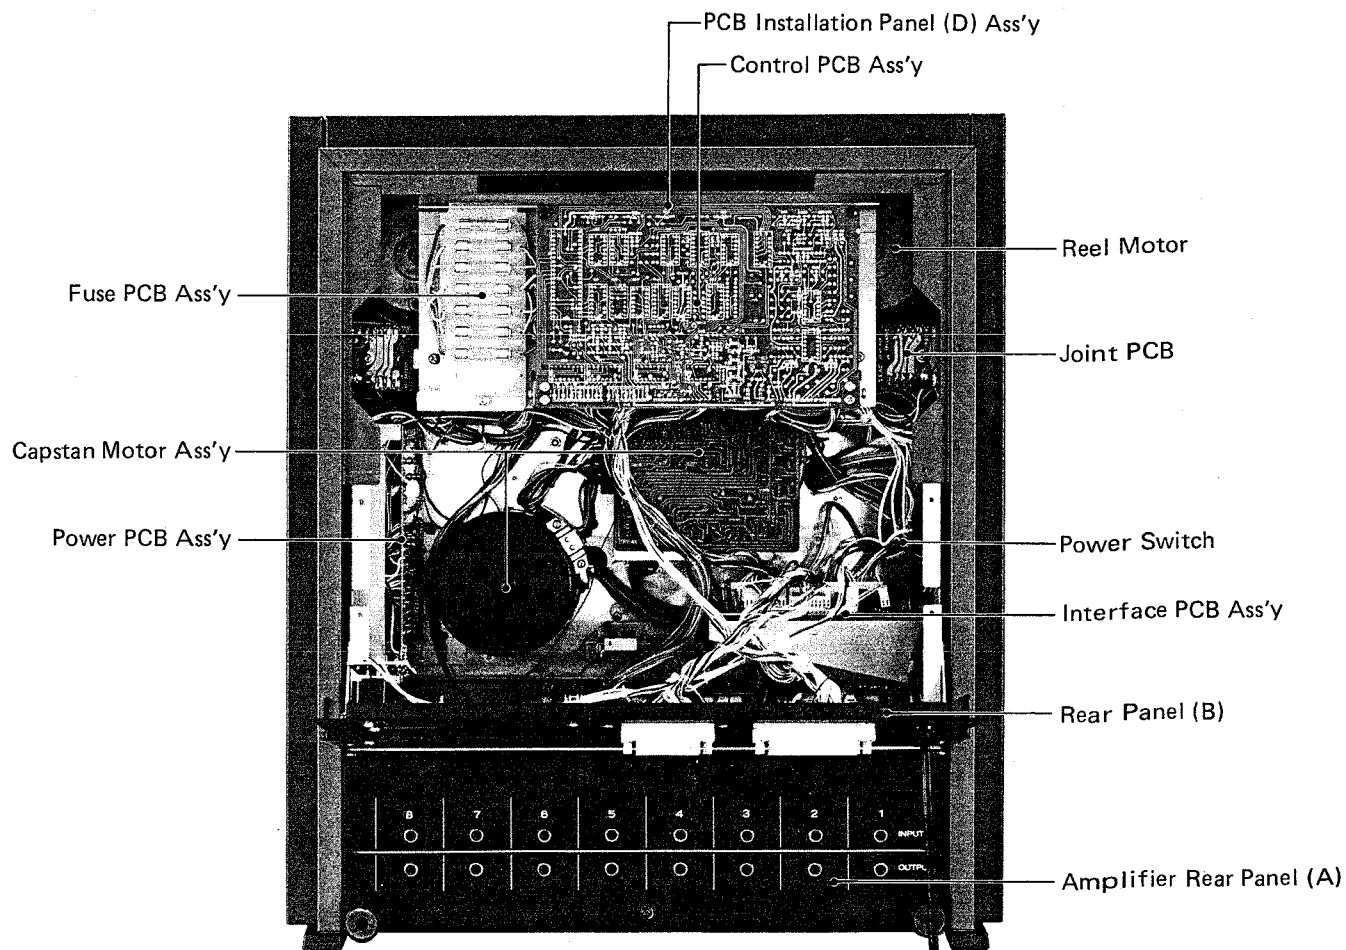

Fig. 7-2. Rear Parts Location
1. After removing the front panel as described in 7-4-1 (B), remove the PCB installation panel (D) ass'y by removing the six screws located beneath the control and fuse assemblies shown in Fig. 7-2.